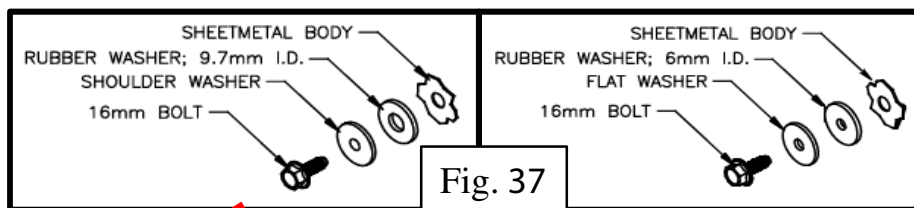

Fig. 37
3. Install bracket with 10mm socket and ratchet using hardware provided to existing mounting holes. The (3) 16mm long silver flange bolts are used, along with the (2) shoulder washers, (2) rubber washers with 9.7mm ID, and (1) flat washer and (1) rubber washer with 6mm ID. Stackup breakouts are provided (Fig.37).